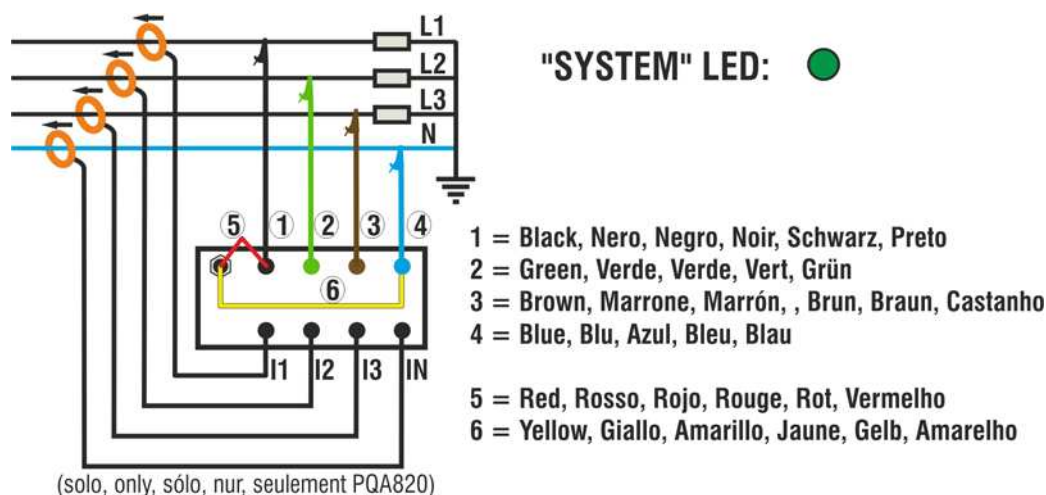

Fig. 4: Connection of the instrument to a three-phase 4-wire system
- Connect the supply terminals (red and yellow) respecting the connections indicated in the Fig. 4
- Connect the cables of the phase voltages L1, L2, L3, respecting the connections indicated in the Fig. 4. Connect the blue cable to the system's neutral.
- If you want to measure currents and powers, connect the clamp meters to the phase conductors, **respecting the direction indicated on the clamps** and the connections indicated in the Fig. 4